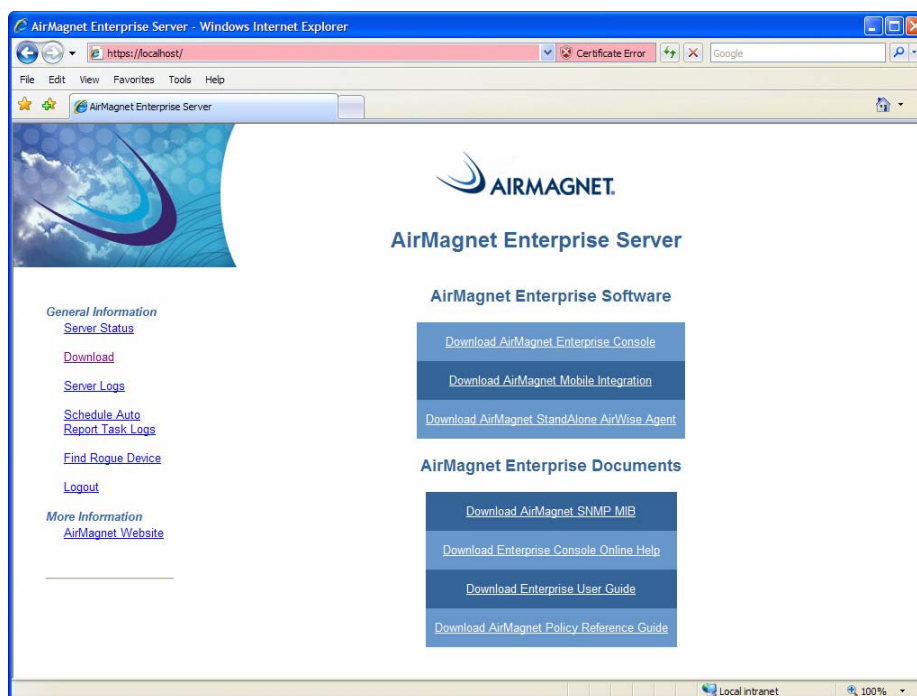

Figure 2-11: Downloading AirMagnet Enterprise Console
- 4) Click the **Download** link. The Download AirMagnet Software page appears. See Figure 2-11.